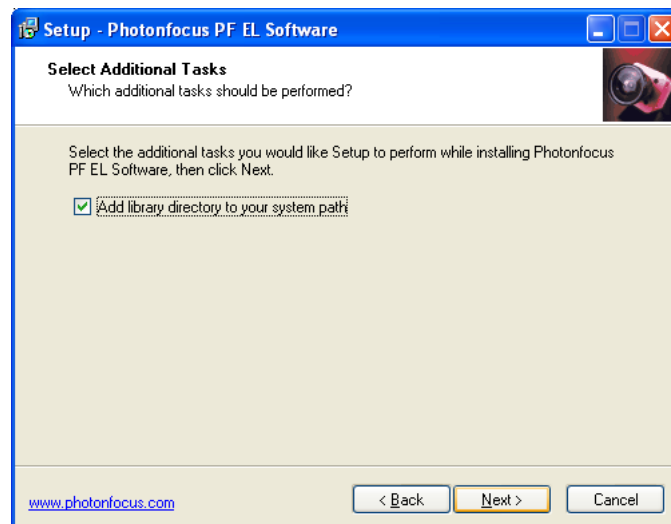

Figure 2.8: Photonfocus PF EL Installer: system path
8. Check the "Add library directory to your system path" checkbox and click on the Next button to continue (see Fig. 2.8).